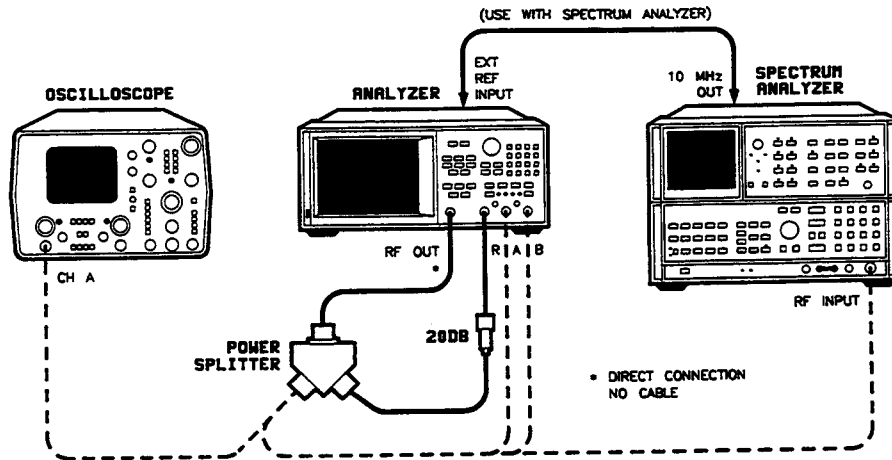

Figure 1. Basic Phase Lock Error Troubleshooting Equipment Setup
Troubleshooting tools include the assembly location diagram and phase lock diagnostic tools. The assembly location diagram is on the underside of the instrument top cover. The diagram shows major assembly locations and RF cable connections. The phase lock diagnostic tools are explained in the appendix and should be used to troubleshoot phase lock problems. The equipment setup shown in Figure 1 can be used throughout this section.
1. Connect the power splitter, RF cable and attenuator to inputs A and R as shown in Figure 1. Make sure the A9 CC Jumper is in the ALTER position, as shown on the *Adjustments* tab.
1. Connect the power splitter, RF cable and attenuator to inputs A and R as shown in Figure 1.
1. Connect the oscilloscope or spectrum analyzer as shown in Figure 1. (Set the oscilloscope input impedance to 50 ohms.)